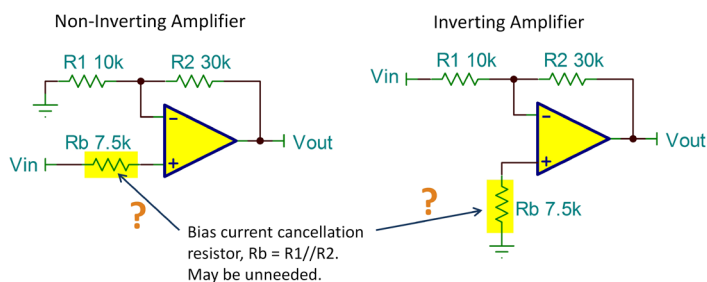

Figure 22: Resistor added to non-inverting input to match the source resistances.
Do you add a resistor to match the direct current (DC) resistance at the inputs of your operational amplifier (op amp) circuits? Check the circuits in Figure 22. Many of us were instructed to add R_b as “good practice,” making its value equal to the parallel combination of R_1 and R_2 . Let us look at the reason for this resistor and consider when it is appropriate and when it is not.